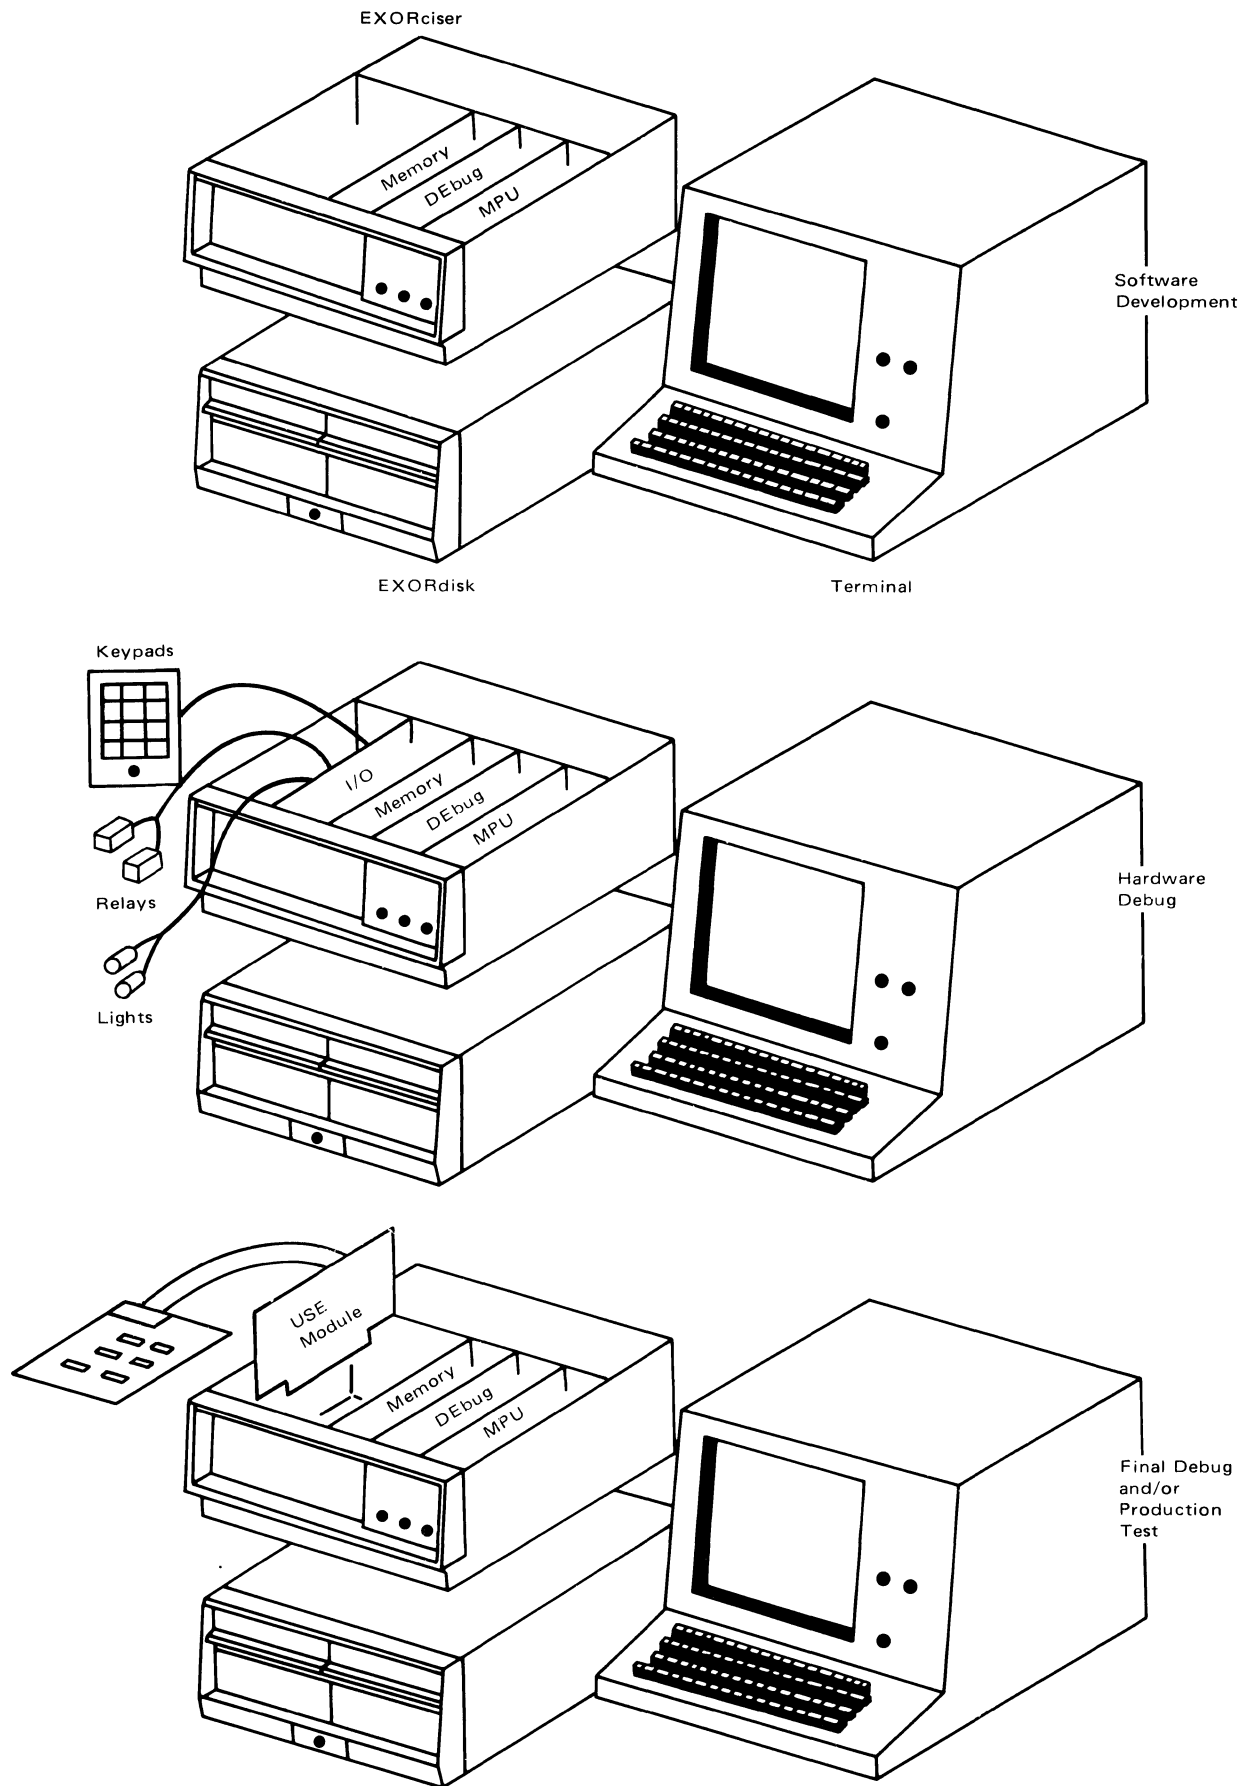

FIGURE 4-2. EXORciser, the Development Tool
To better understand using the EXORciser in the design and development of an M6809 Microprocessor system, let us review the procedure followed by a typical engineer in developing a microprocessor system, and how the EXORciser will simplify the design (see Figure 4-2). The engineer:
- b. After all of the I/O circuits have been activated and are working correctly (assuming that the system previously shown in Figure 4-2 is being prototyped), resume testing by loading the program that was used in the emulation into RAM module.